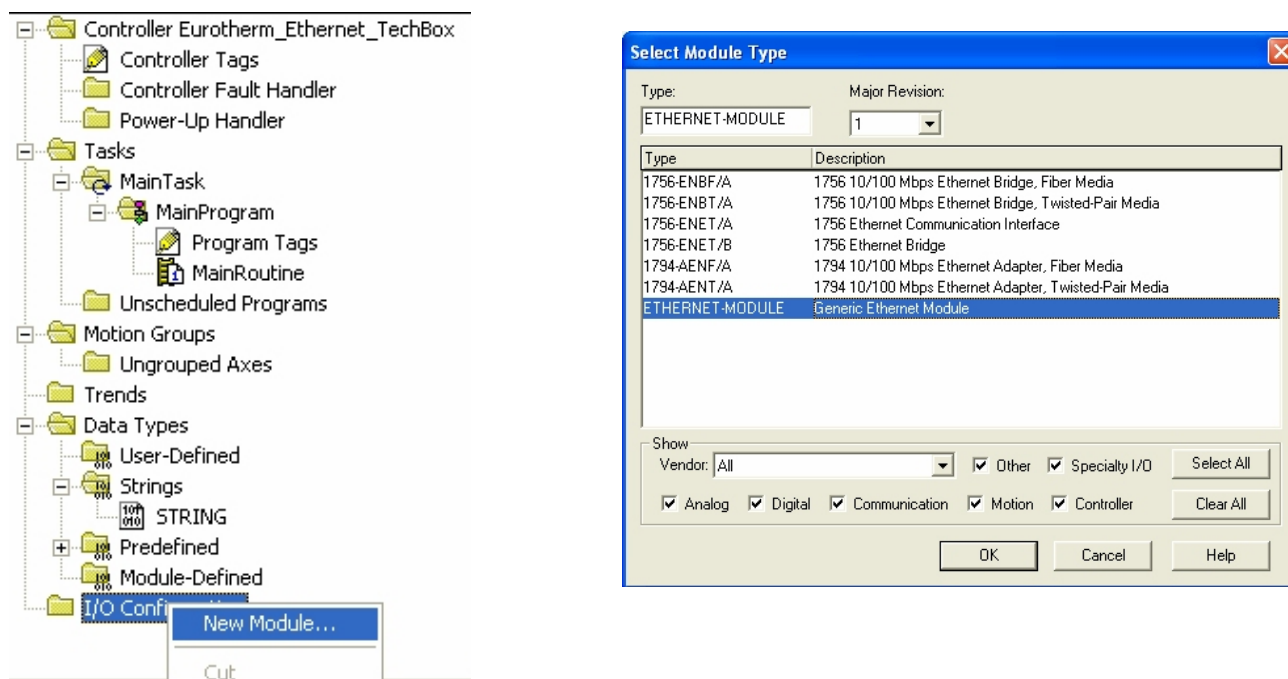

Figure 11. Generic Ethernet Module Select
13. Right click on the Ethernet Interface Module, select New Module. This screen will allow the selection of the Generic Ethernet Module. Refer to Figure 11.